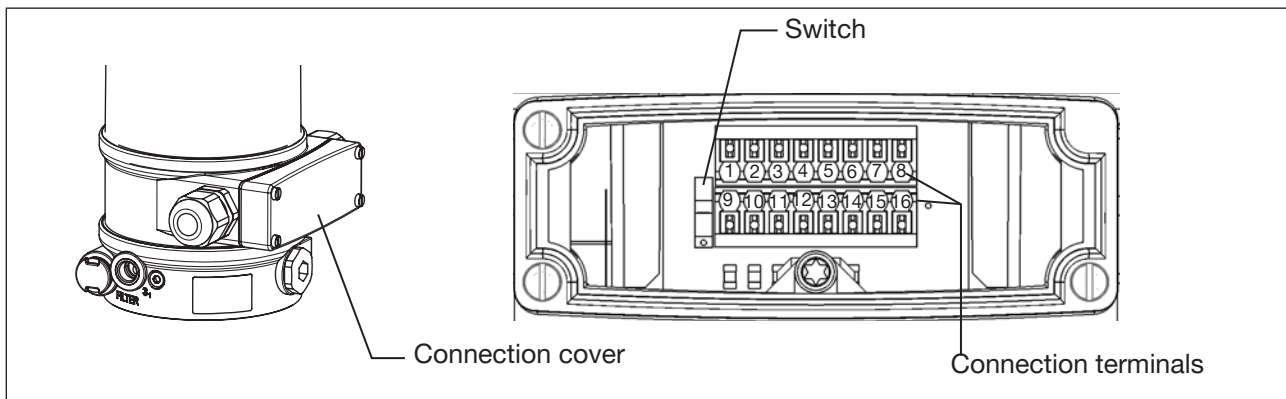

Figure 30: Cable gland connection
** The switch is situated under the connection cover (see “Figure 30: Cable gland connection”).